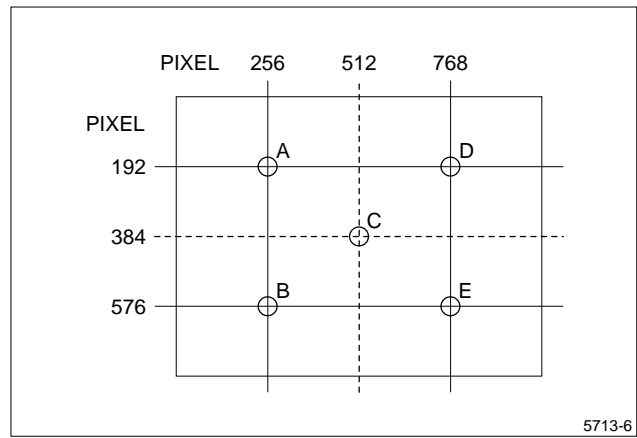

Figure 7. Definition of White Uniformity
- Definition of White Uniformity is defined as the following equation among the values measured at the five spots (A - E) (see Figure 7):